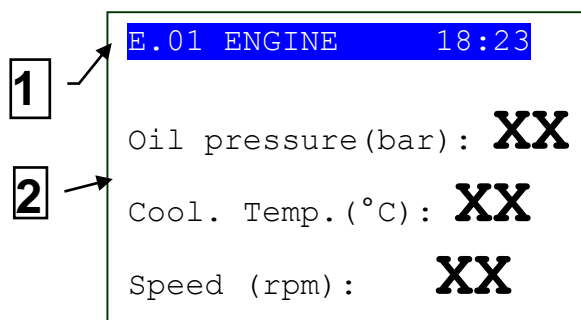

Fig. 3 - Display areas
3.3.2 Display area layout (ref. to fig. 3)